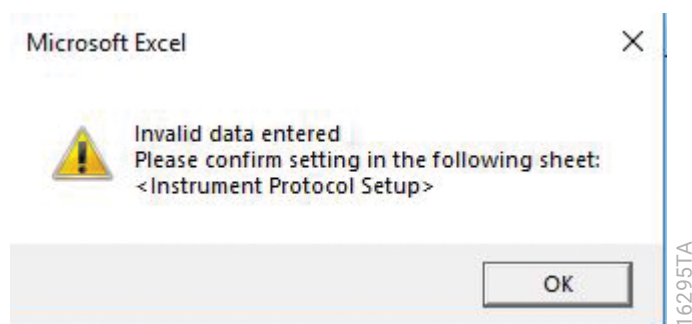

Figure 194. Microsoft® Excel® Invalid Data Entry Error window.
- c. If there are any invalid data errors within the new protocol.xml file being saved, an error window will be displayed (Figure 194).
- c. If there are any invalid data errors within the new protocol.xml file being saved, an error window will be displayed similar to that shown in Figure 194, but specific for basecalling protocols.